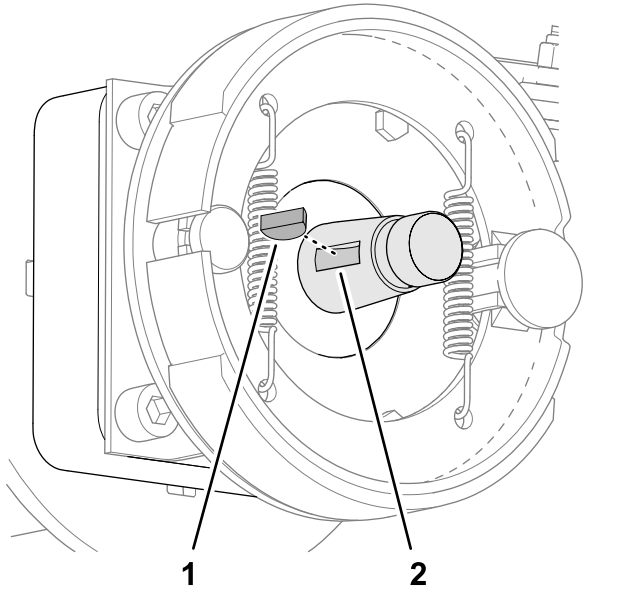

Figure 71
2. Insert the woodruff key into the groove of the wheel-motor shaft (Figure 71).